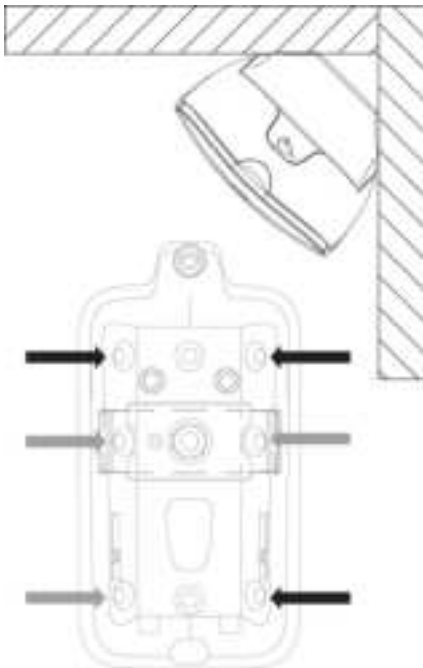

Figure 5 Cornermount configuration
- To mount in a corner, see Figure 5.